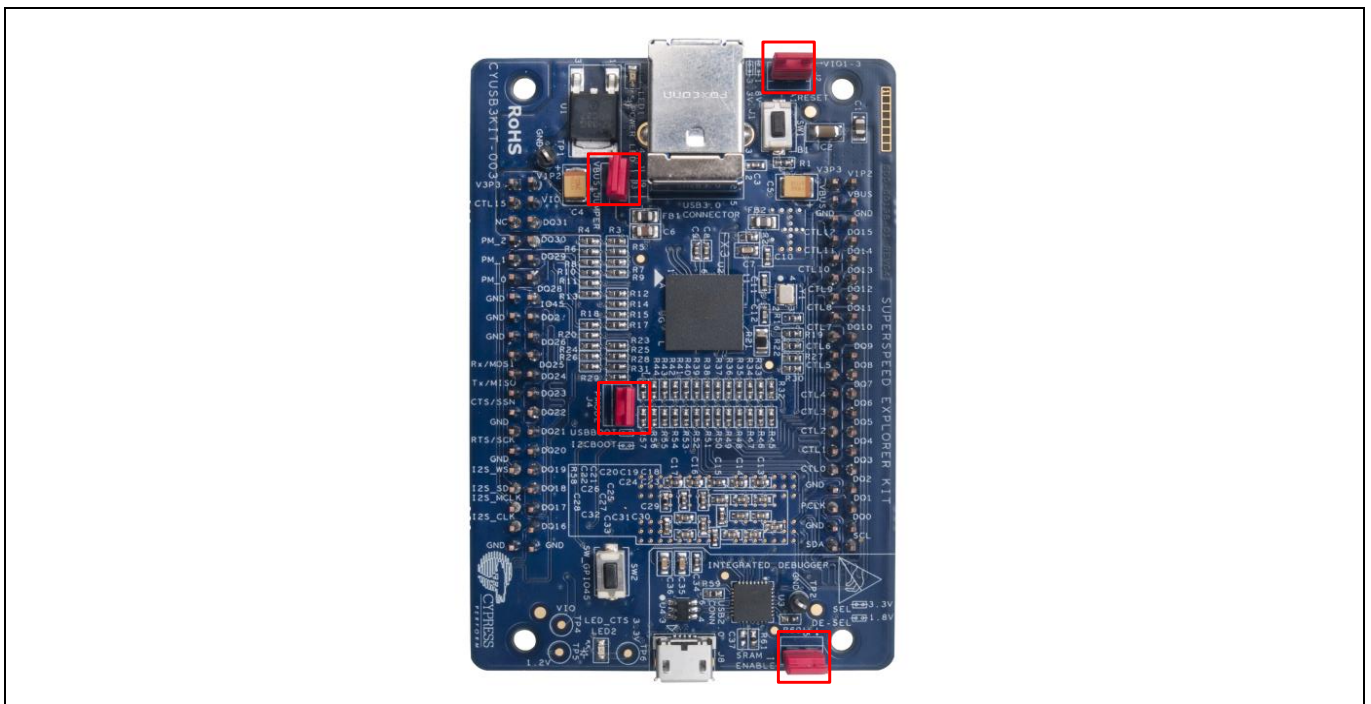

Figure 12 SuperSpeed Explorer Kit Board Setting for USB Boot
1. Obtain an **EZ-USB® FX3™ SuperSpeed Explorer Kit (CYUSB3KIT-003)**. In this exercise, the FX3 firmware is downloaded from the USB host, so the SuperSpeed Explorer Kit board must be configured for USB boot. To select USB boot, keep all the jumpers CLOSED as shown in **Figure 12**. These jumper settings are highlighted with a red box or circle. For details on the Kit board, refer to the **Kit User Guide**. The SuperSpeed Explorer kit board can only be powered from the USB cable (bus-powered).